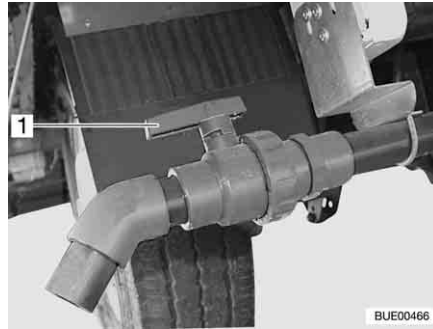
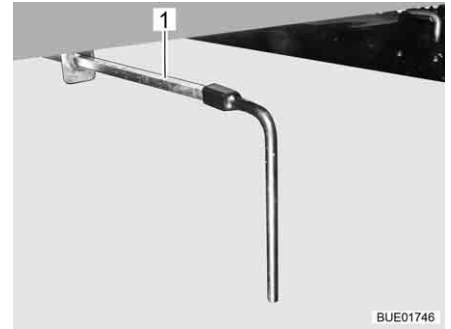

Fig. 237 Drain cock
Fig. 238 Drain cock (alternative)
- Turn the handle (Fig. 237,1 or Fig. 238,1) of the drain cock in flow direction.